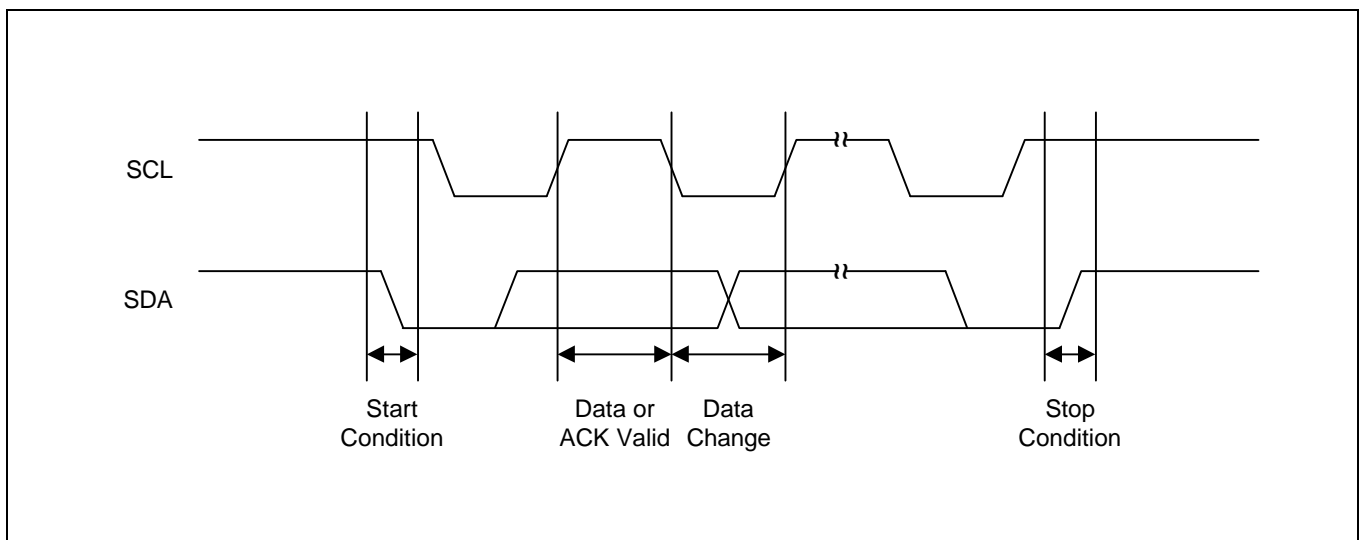

Figure 8-7. Data Transmission Sequence
- **Stop condition:** A stop condition is initiated by a Low-to-High transition of the SDA line while SCL remains in High level. All bus operations must be completed by a stop condition (see Figure 8-7).